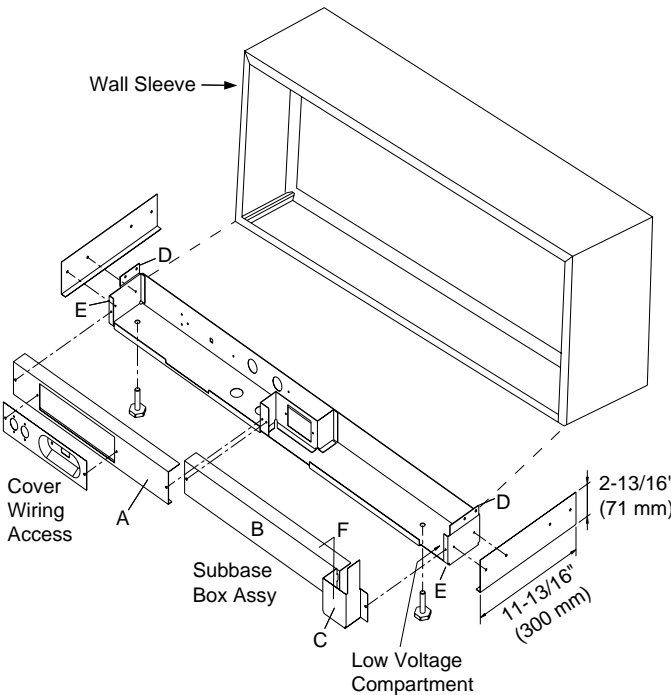

Figure 58 - Dimensions
3. Align the back edge of the flange on cover A (Figure 57, next page) to front of the wall sleeve flange. (Figure 58, next page)